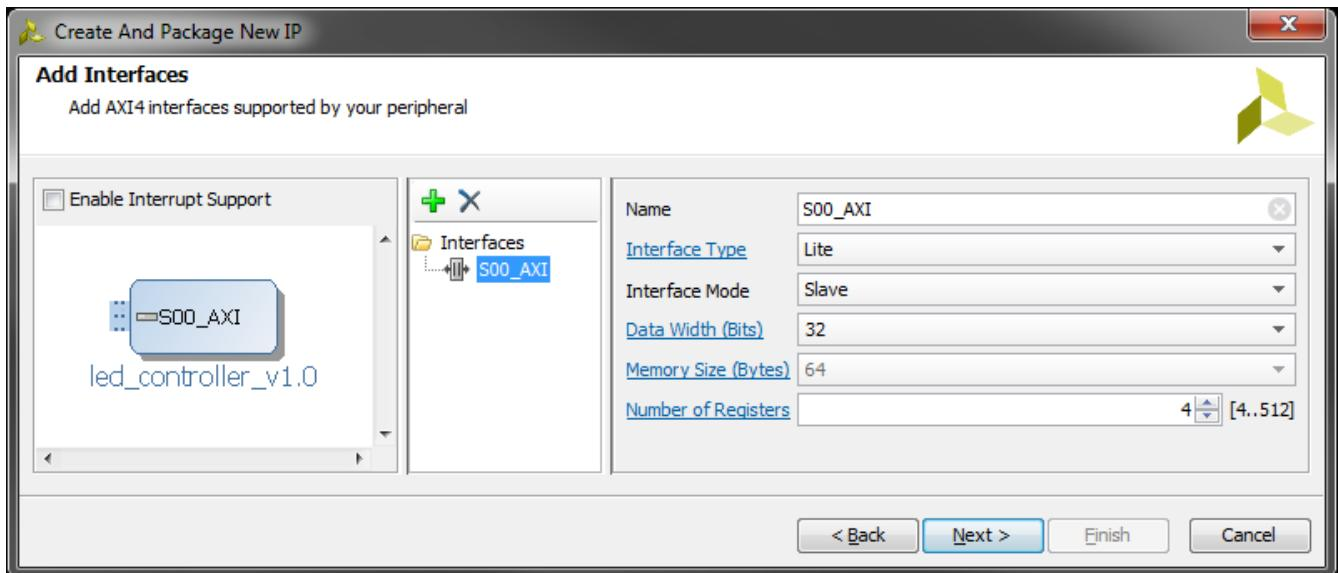

Figure 4.7: Add Interface dialogue
- (o) Specify the *Add Interface* dialogue as shown in Figure 4.7.